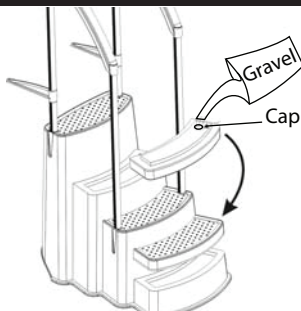

Fig. 3
3. Fill the two ballasts with sand* (approx. 40 lb each) until they are completely filled (fig. 3). Place one of the ballast on the bottom step only for now.